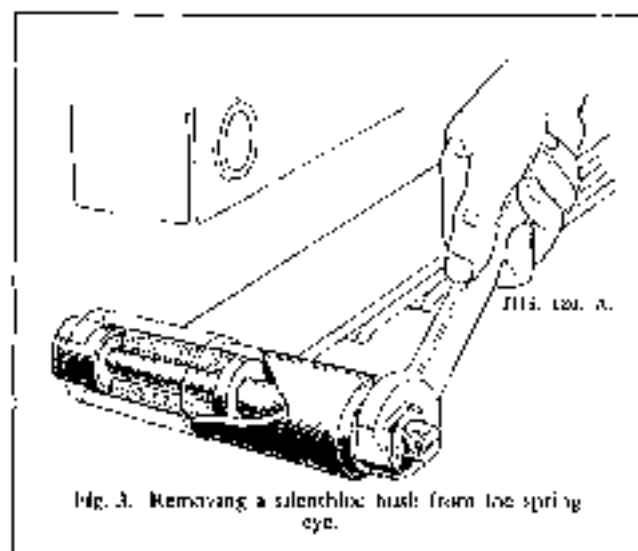

Fig. 3. Removing a silentbloc bush from the spring eye.
**Spring Eye Bushes:** These are of the silentbloc type and must therefore be pushed clear of the spring eyes by applying pressure to the outer bush of the assembly. A tool similar to that shown in Fig. 3 will greatly simplify this operation. Part of the tool can also be used for replacing the silentbloc bush which must be so positioned that its outer bush is perfectly central in the spring eye. Again pressure must only be applied to the outside bush. When the shackle pin is inserted the nut must be pulled up tight otherwise the silentbloc bush will not operate properly.